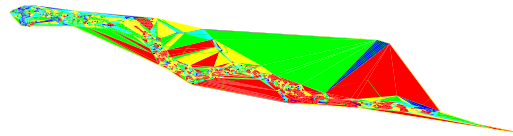

Figure 4-37 Different colors representing different slope bands
12. Turn on the visibility of **Slopes** in the **Display** tab and choose **OK** to close the dialog box. Figure 4-37 shows different colors representing different slope bands created on the surface.